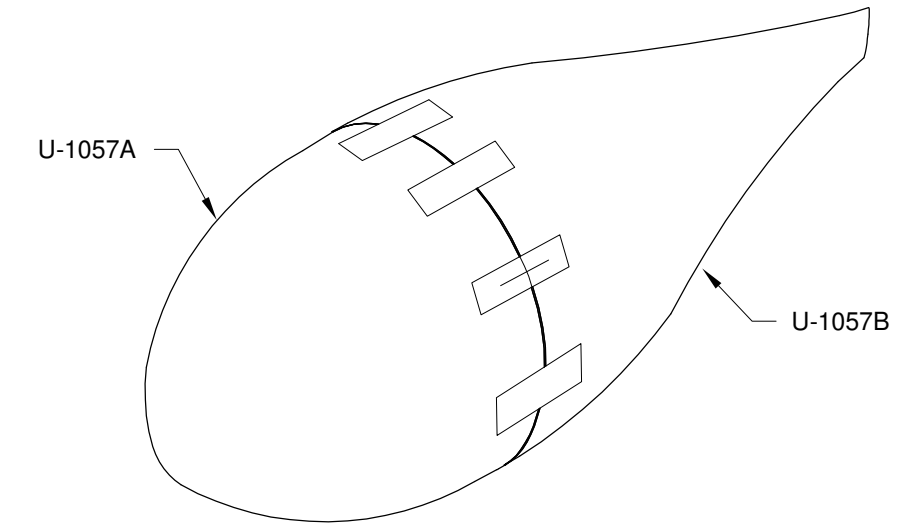

FIGURE 3: TAPE FAIRING HALVES TOGETHER
Step 3: Tape the U-1057A Wheel Fairing Front and U-1057B Wheel Fairing Rear halves together as per Figure 3.